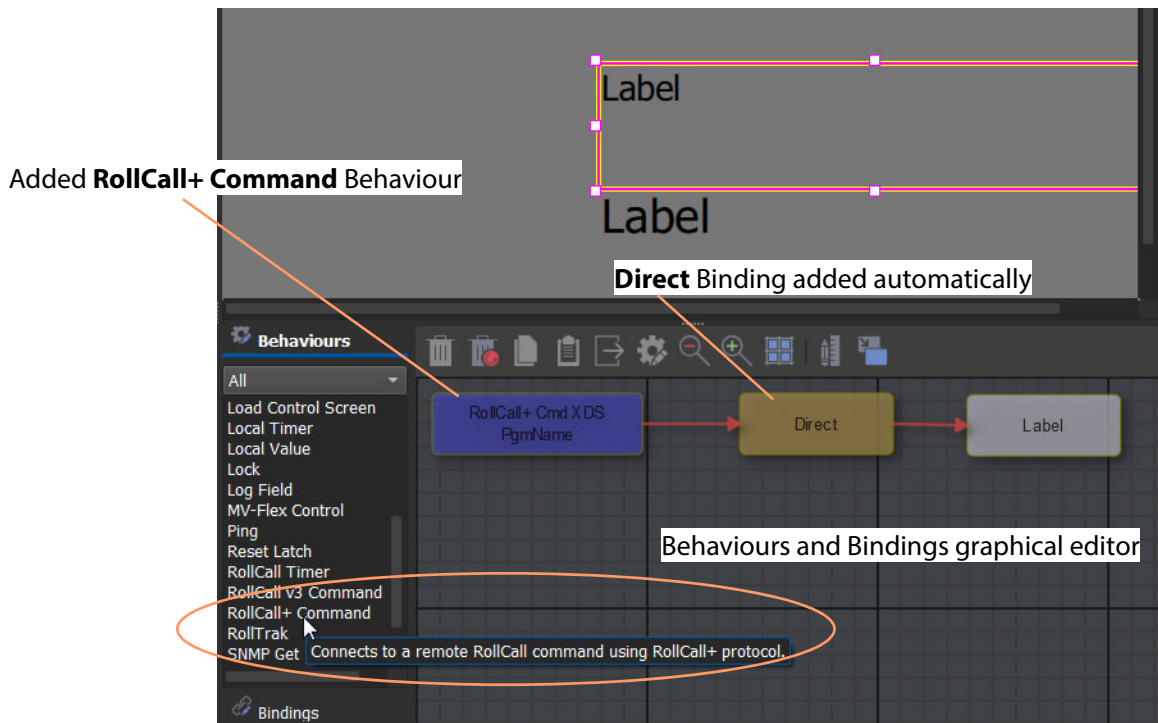

Fig. 5-8: Add a RollCall+ Command Behaviour
- 5 Add a **RollCall+ Command** Behaviour to the editor. See Figure 5-8.